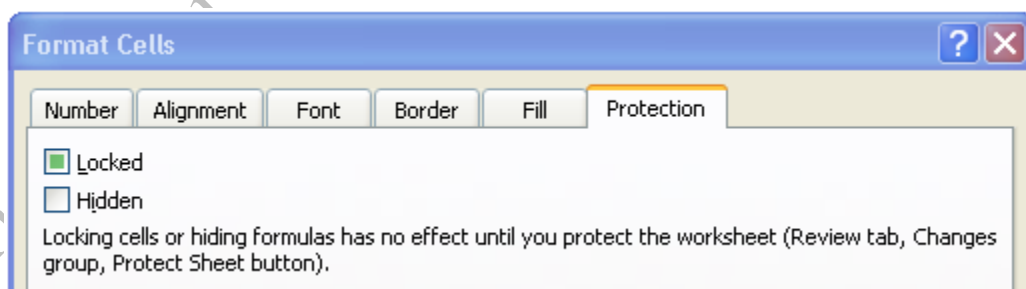

Figure 8.39. Mix of locked and unlocked cells have been selected.
12. On the Home tab, in the Cells group, click the Format button and then click Format Cells. In the Format Cells dialog box, click the Protection tab. The checkbox next to Locked displays a green square instead of a check or empty box, as shown in Figure 8.39.